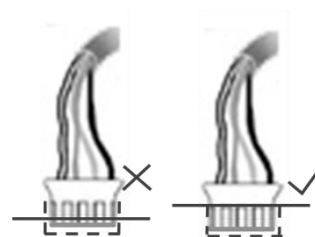

Figure 2: J7 Connector
- Move J7 from unit#1 to unit#2. See Figure 2.
- c. Move J7 from unit #2 to unit #1 (See Figure 2).